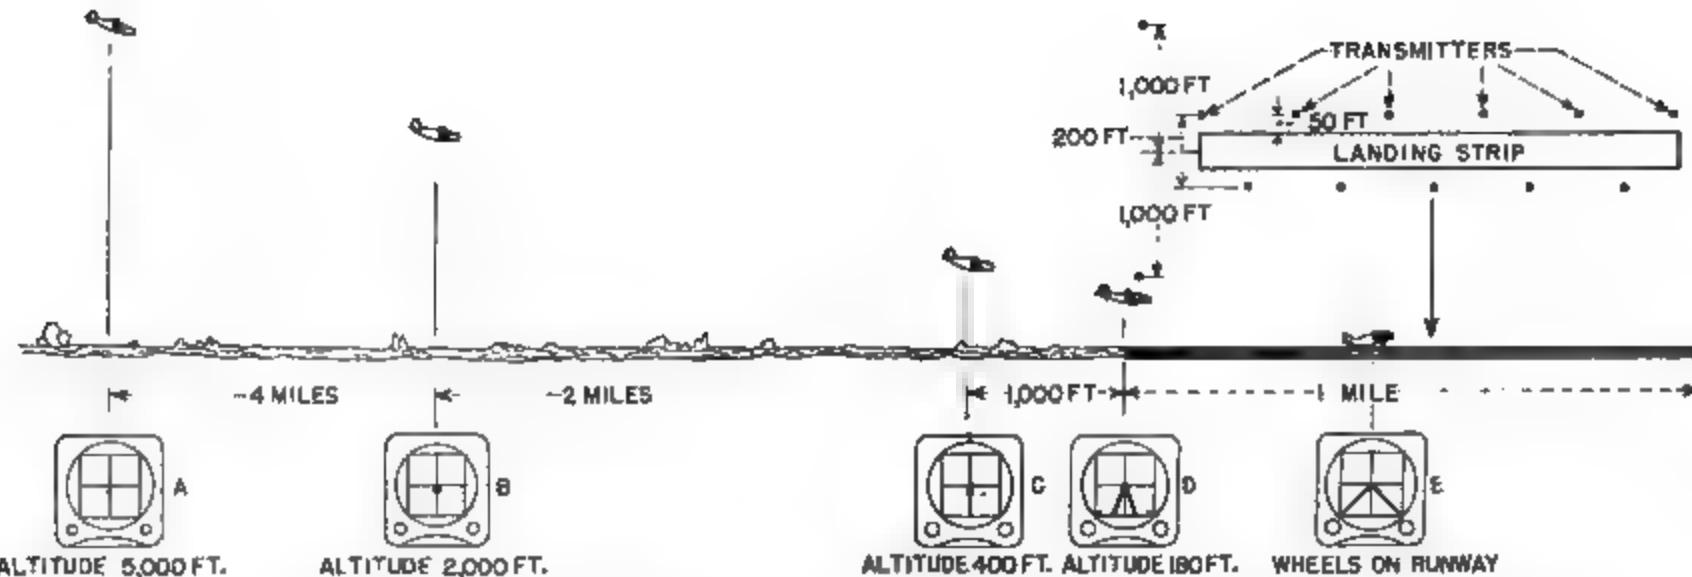

Fig. 1. Transmitters located about landing strip form patterns on pilot's indicator similar to patterns formed by ground lights.
To initially start retraction of the gear, the main cylinder (A)—shown in Fig. 1—must apply extreme load to overcome over-center position of linkage on main shock strut (B).
Fig. 1. Main landing gear installation of Grumman Mallard: (A) main hydraulic cylinder, (B) strut, (C) downlock cylinder, and (D) dashpot bumper. Downlock cylinder aids main cylinder at point
Use of the system for making instrument landings is shown in Fig. 1, where an aircraft is depicted making an approach and landing on a field equipped with the system. Shown in conjunction are the indications the pilot will see during the procedure, in any type of weather.